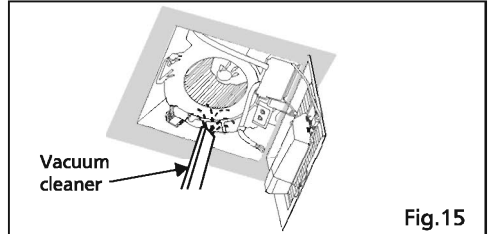

Fig. 15
4. Remove dust and dirt from fan body using a vacuum cleaner. (Fig. 15)